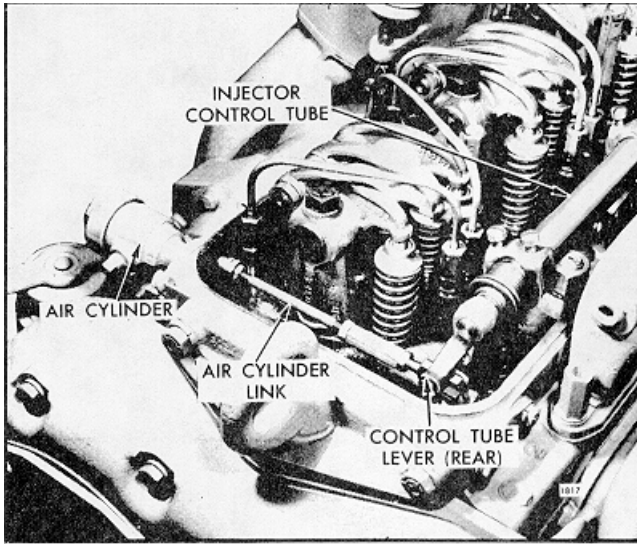

Fig. 7 - Air Cylinder Used with Limiting Speed Governor
- 2 Loosen the lock nuts on the air cylinder fuel shut-off rod (Fig 7) and lengthen the rod by turning the turnbuckle until the end of the slot contacts the pin in the end of the control tube shut-off lever. Then shorten the rod one complete turn of the turnbuckle and tighten the lock nuts.